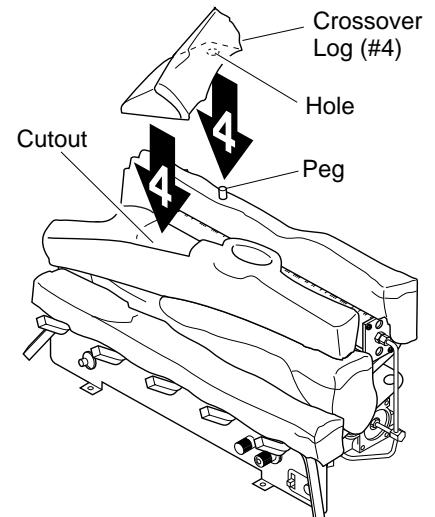

Figure 19 - Installing Crossover Log (#4)
4. Place the crossover log (#4) on the back log and the middle log. Make sure the peg on the rear log is in the hole in the bottom of the crossover log. The crossover log should fit in the cutout of the middle log (see Figure 19).